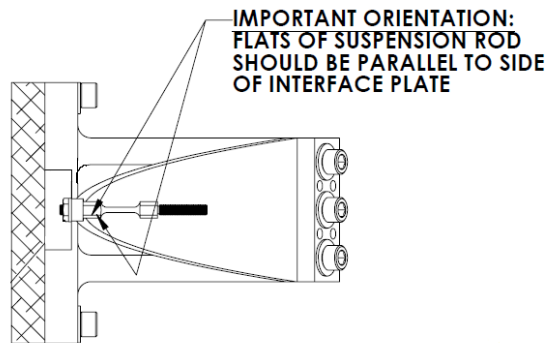

Figure 23: Suspension Rod
17. Attach D1200781 - SLC ACB SUSPENSION ROD to tip of SUSPENSION BLADE. Short threaded end into blade tip. Orient the flat of rod so that a wrench can hold the flat from the blade tip direction, see Figure 23.